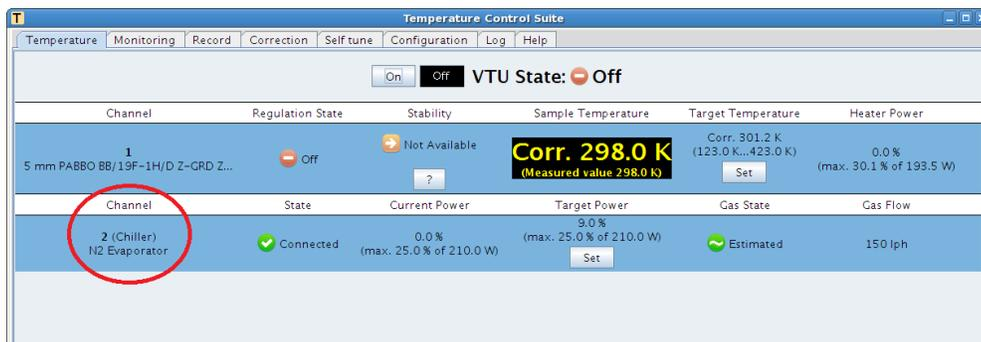

Figure 17: N2 Evaporator Added as a New Apparatus
- At this point, the Temperature Control Suite shows the **Chiller N2 Evaporator** added to the channel 2 as shown in the Temperature Control Suite (Figure 17).